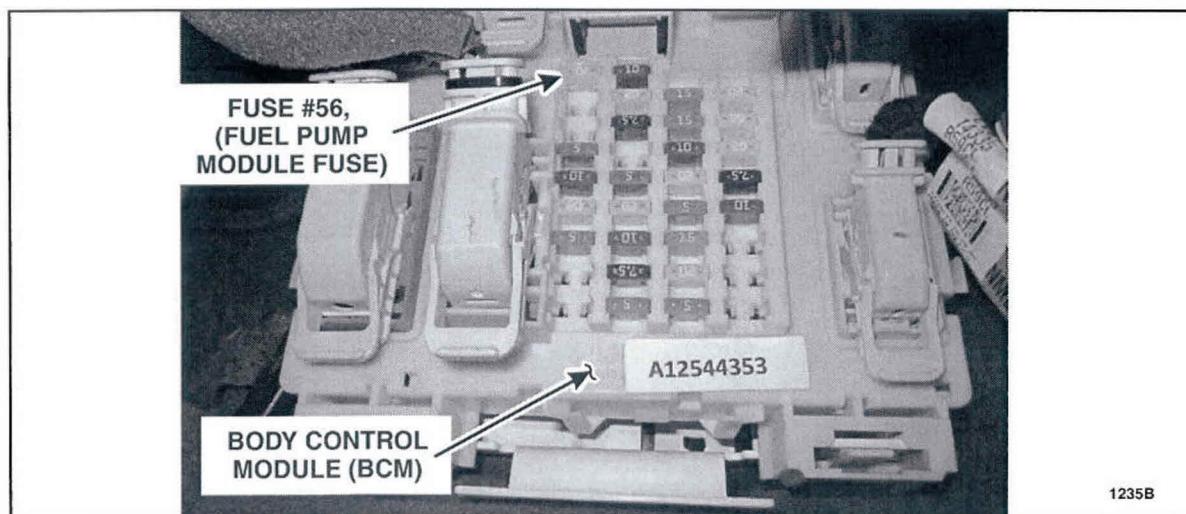

FIGURE 6
2. Remove Fuse #56 (Fuel Pump Module fuse), from the BCM. See Figure 6.